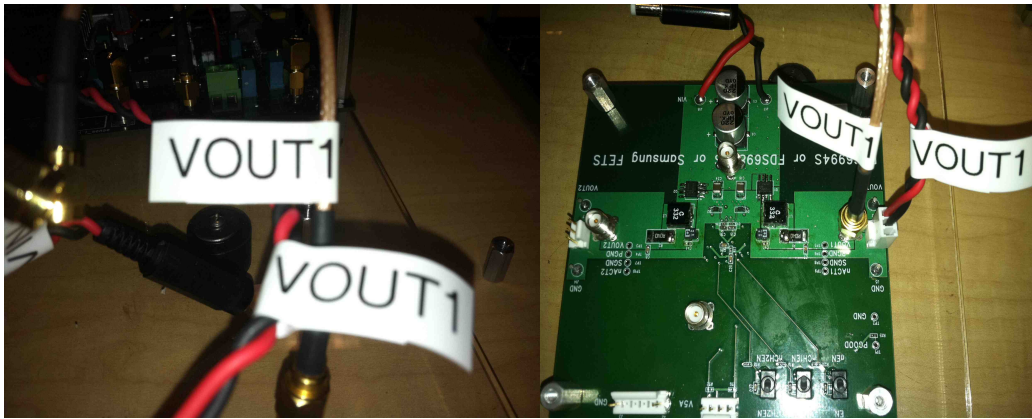

Figure 1.
Step 1: Connect the sma jack and 3 pin connector labeled VOUT1 to your sma connector and 3 pin header labeled VOUT1 as seen in figure 1: